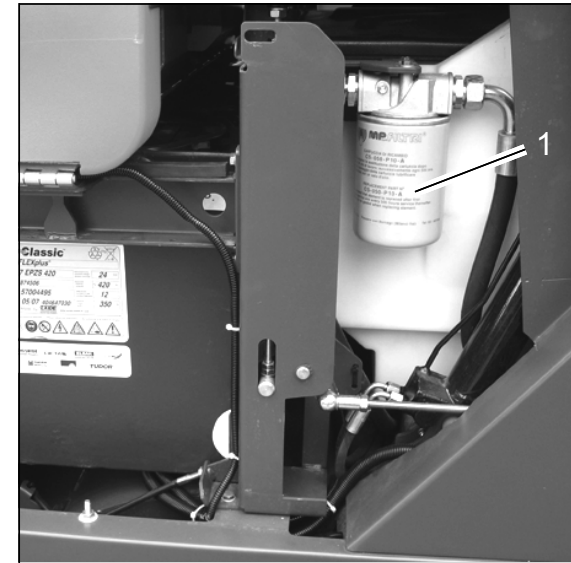

Fig.21
- Turn hydraulic filter (Fig. 21/1) counter-clockwise to loosen it and unscrew.